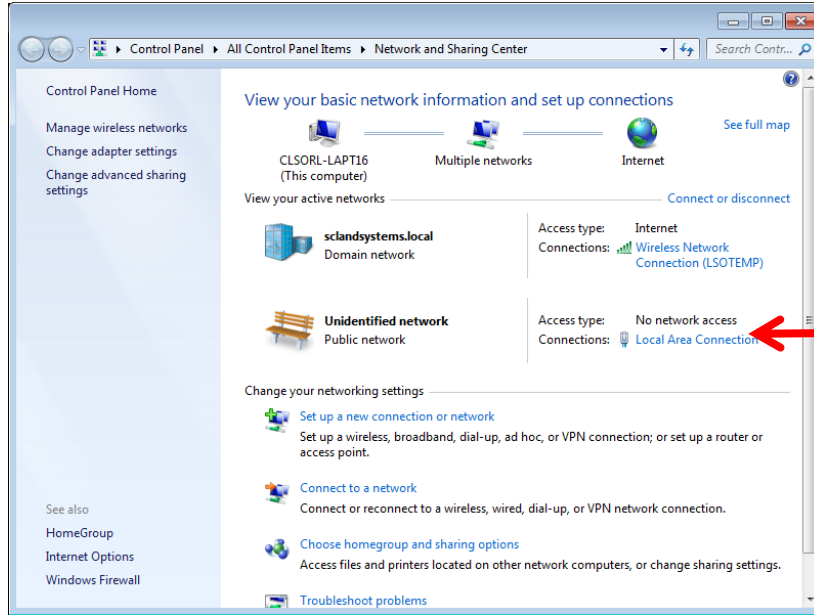
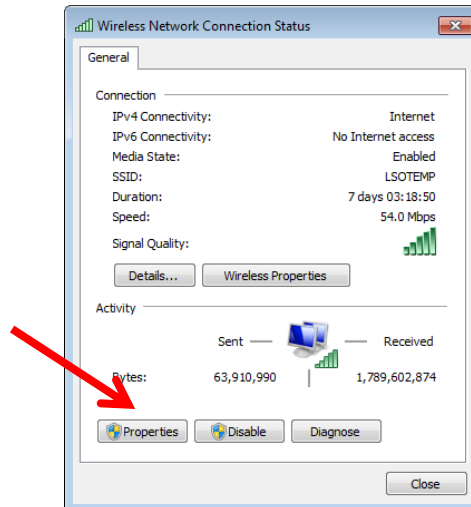

Figure 1. Network Configuration Window
Figure 3. Connection Status Window
2. On a PC running Windows OS, go to **Control Panel** and then select **Network and Sharing Center. Fig. 1**
6. Return to the Network connections window **Fig. 1** and click on the LAN connection and then click the **Properties** button in the status window. **Fig. 3**